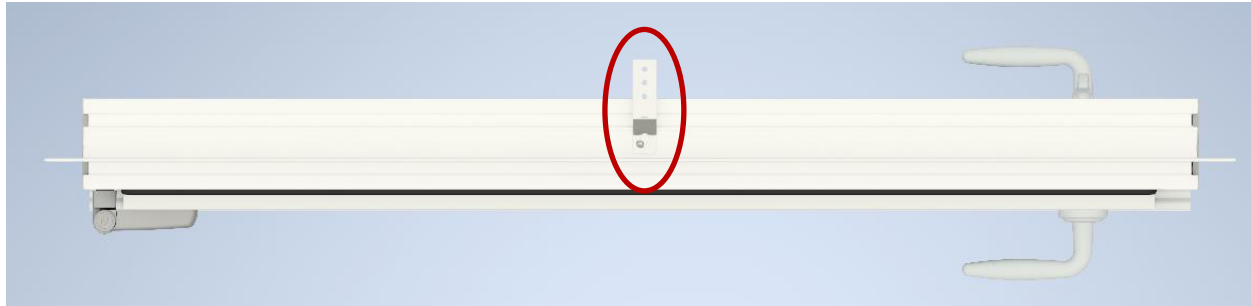
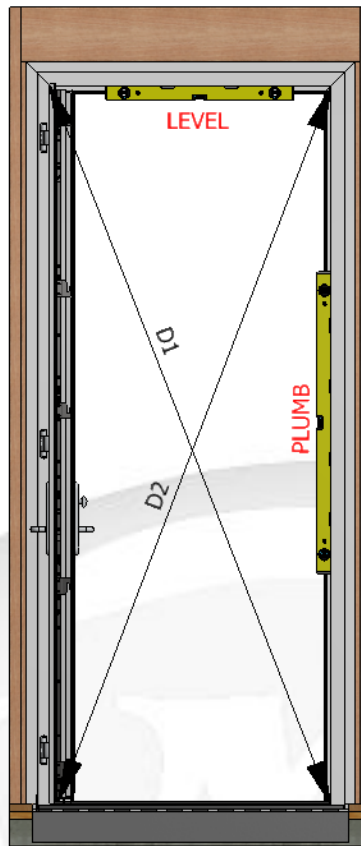

Figure 8: Single Head Anchor Strap
Figure 22: Frame Squaring View
B) Using the single anchor strap located at the head of the door (See *Figure 8*) insert a temporary fastener as shown in section 5.7, A, *figure 22* to hold the door in place while preparing for proper shimming and fastening.
- B) Leveling and plumbing is essential. Use a level to check the sill and jambs to determine if the frame is level and plumb. See Figure 22.